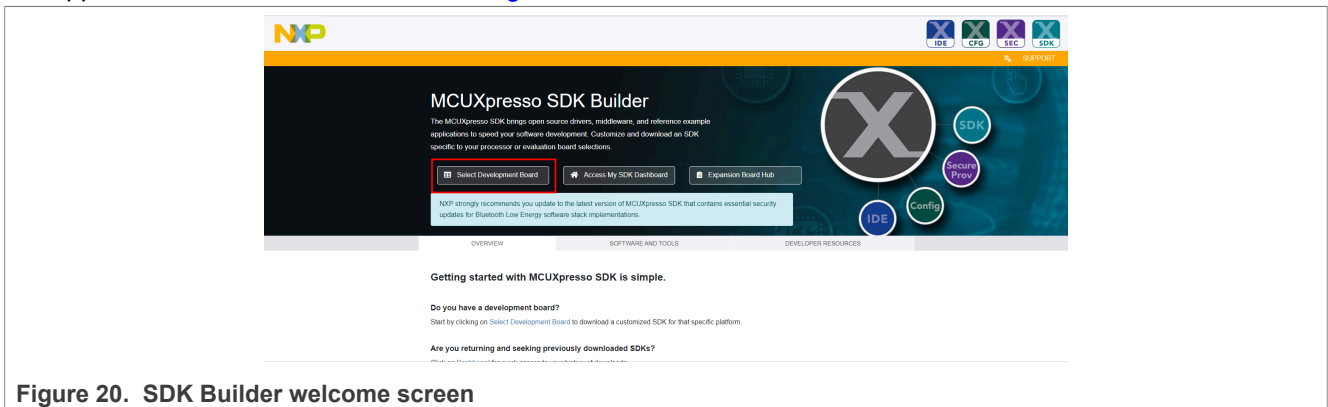

Figure 20. SDK Builder welcome screen
- Launch the MCUXpresso SDK. The **MCUXpresso SDK Builder** welcome screen appears when the application is launched, as shown in Figure 20.